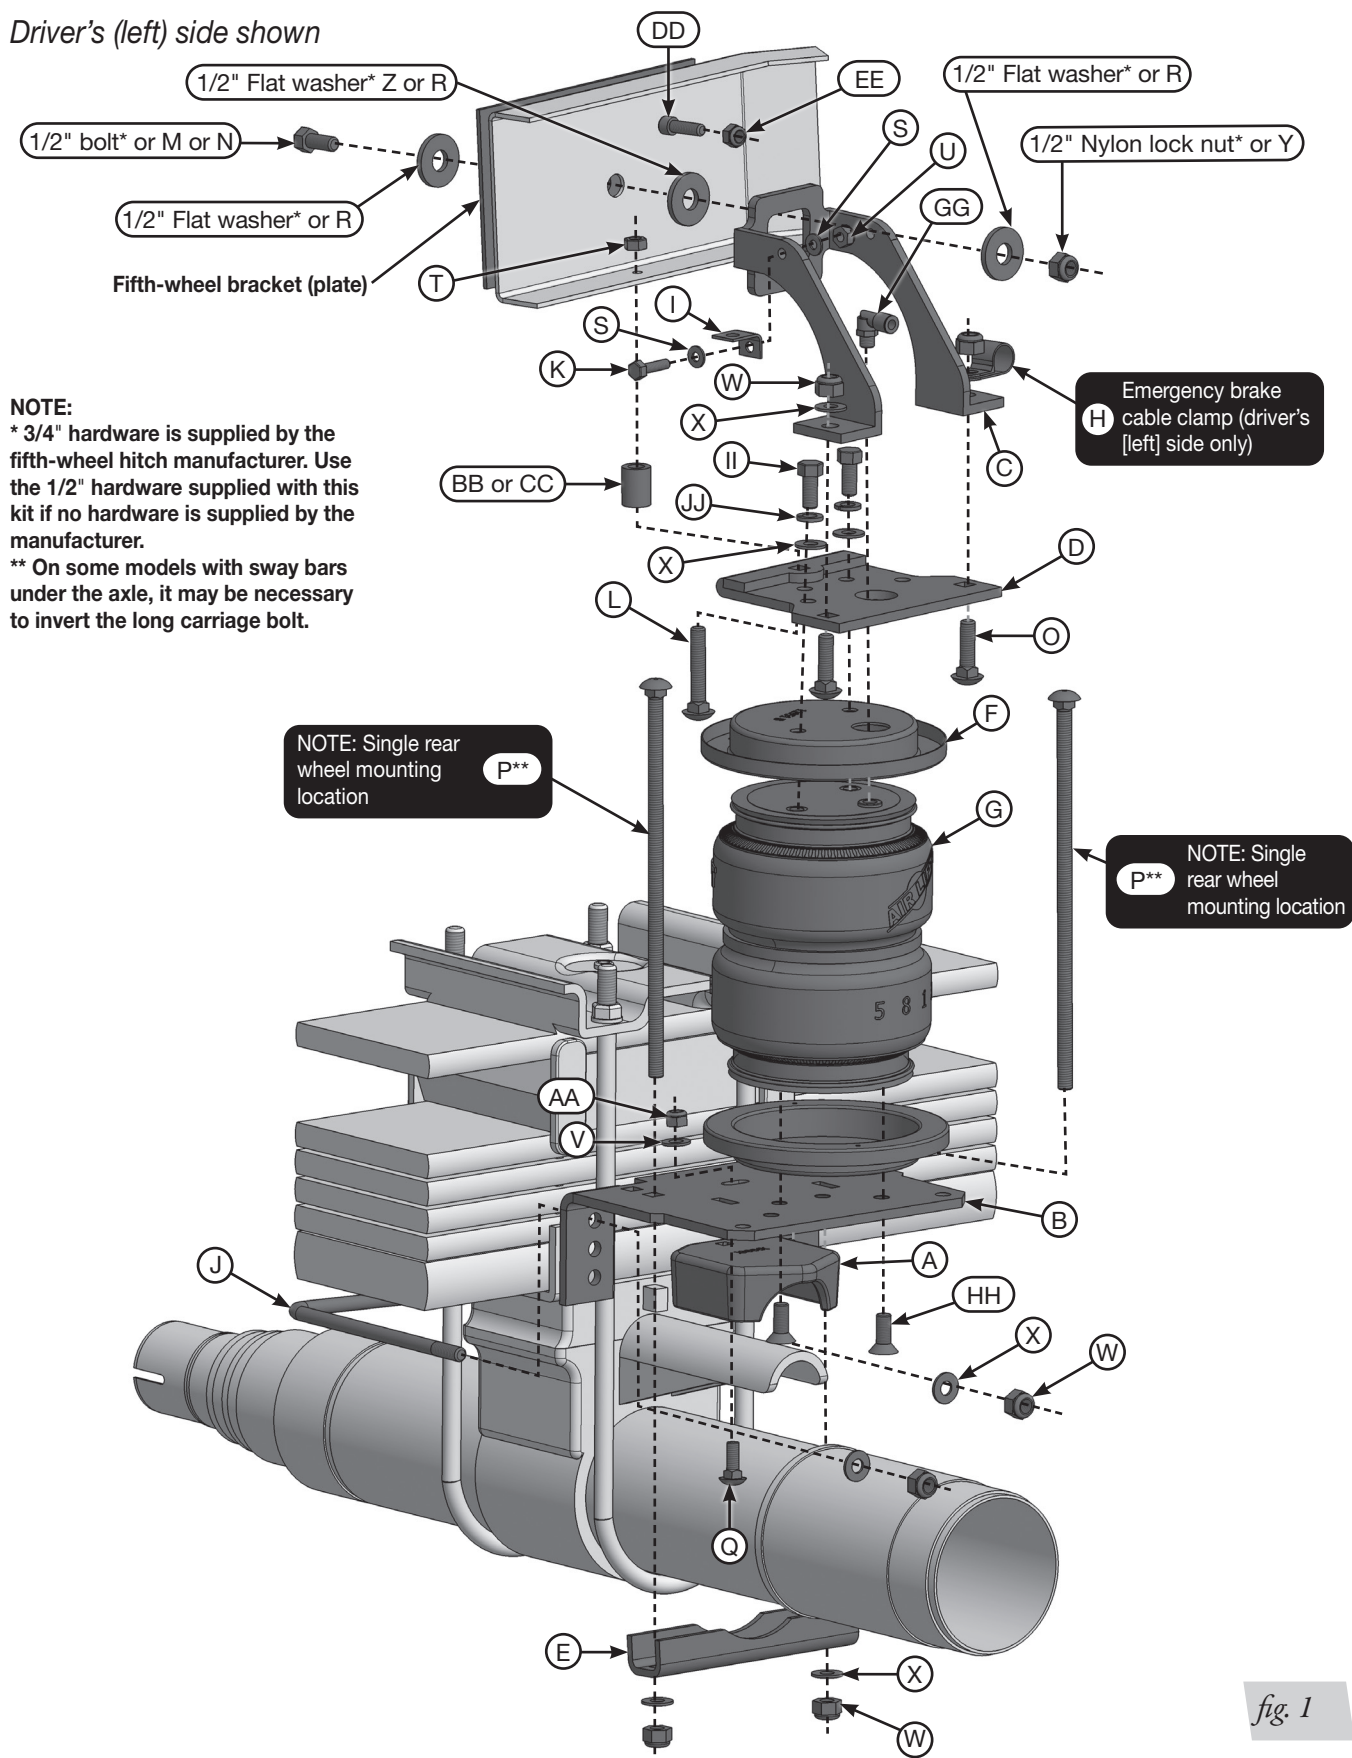

fig. 1
* Item not shown on Figure 1
5. Remove the bolt and reinsert through the emergency cable bracket, from the outside of the frame in. Install the 7/16" spacer (DD) on the bolt and cap with the new M10-1.5 nylon lock nut (EE) (Fig. 1). Tighten hardware securely.
6. If the truck has a fifth-wheel hitch already installed, remove the 3/4" hardware that bolts the side bracket to the outside of the frame above the axle (Figs. 1 & 5).
1. Set roll plates (F) over the top and bottom of the air spring (G) (Fig. 1).